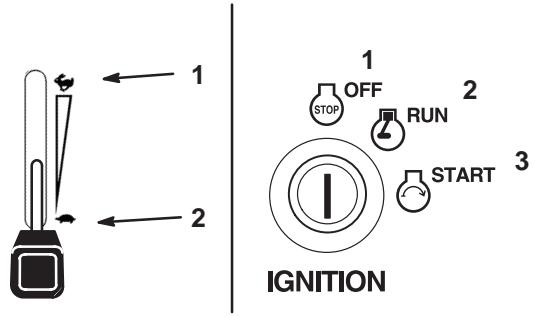

Figure 5
- Move the throttle control to the “FAST” position before starting a cold engine (Fig. 5).
1. Move the throttle lever to “SLOW” (Fig. 5).